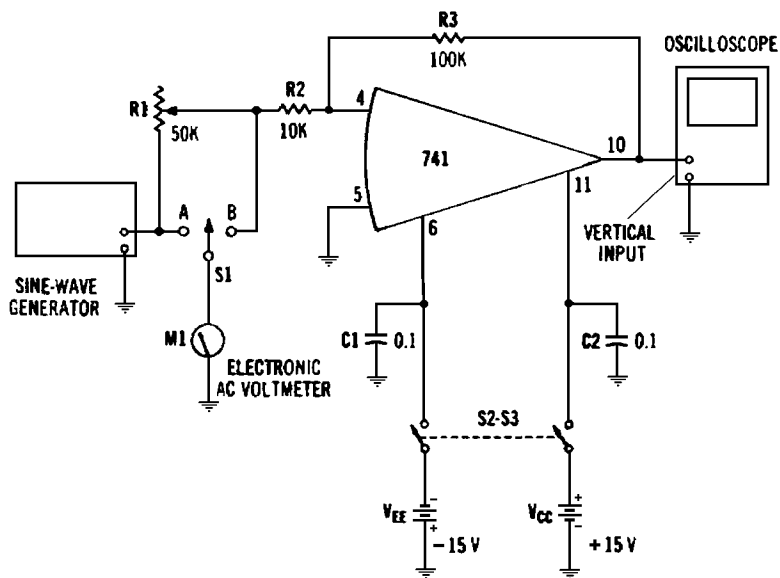

Fig. 2-26. Input impedance.
### Required Equipment (Fig. 2-26)
1. With switch S1 set to position A, switch S2-S3 open, potentiometer R1 set to zero, the oscilloscope and generator off, and the generator output attenuator set to zero, set up the test circuit as shown in Fig. 2-26.